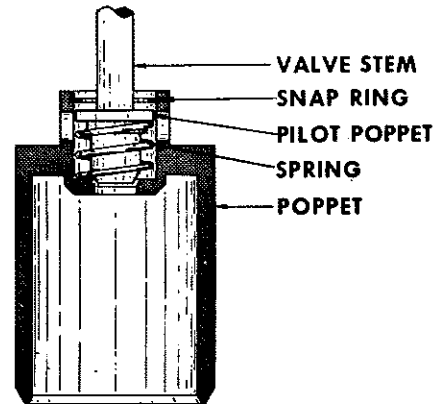

Figure 11 - SNAP RING REMOVAL
6. On BC, BG, WA, WD and WE valves, we recommend that the stem and poppet be replaced as one unit. On MA valves (Figure 11), remove snap ring and separate stem and poppet.